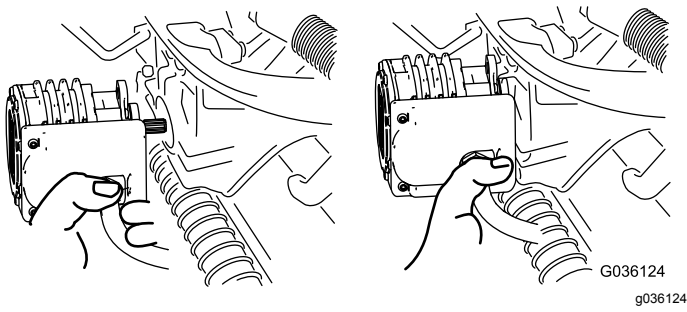

Figure 54
- Move the motor to the storage location on the front of the suspension arm (Figure 54).